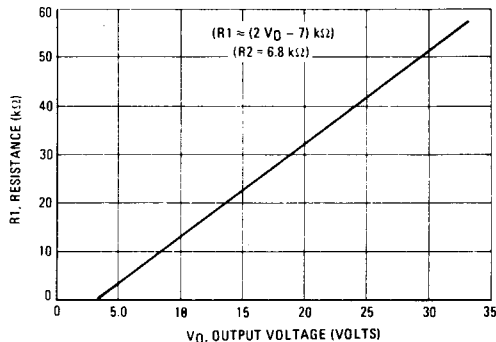

FIGURE 11 — R1 and R2 versus V_O
- b) For $2.5 \leq V_O \leq 3.5$ Vdc — Output voltage is set by resistors R1 and R2 (see Figure 5). Resistors R1 and R2 can be determined from the graph of Figure 11 or from the equations: